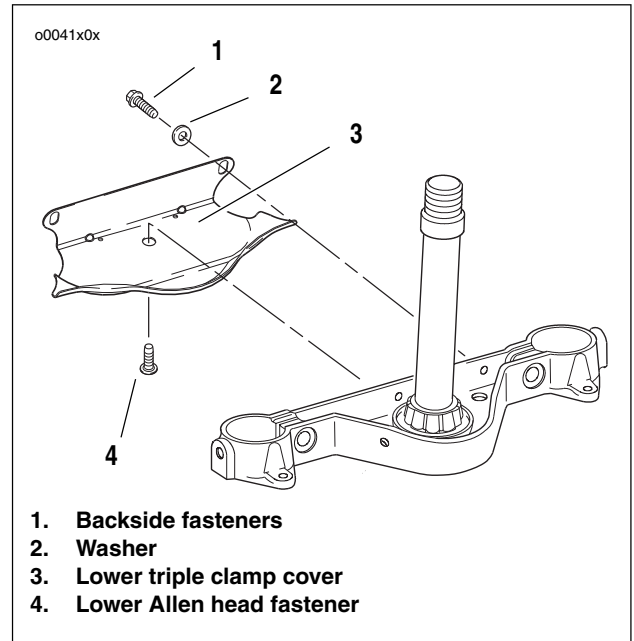

Figure 2-9. Lower Triple Clamp Cover
1. See Figure 2-9. Loosen but do not remove the two fasteners on the backside of cover.